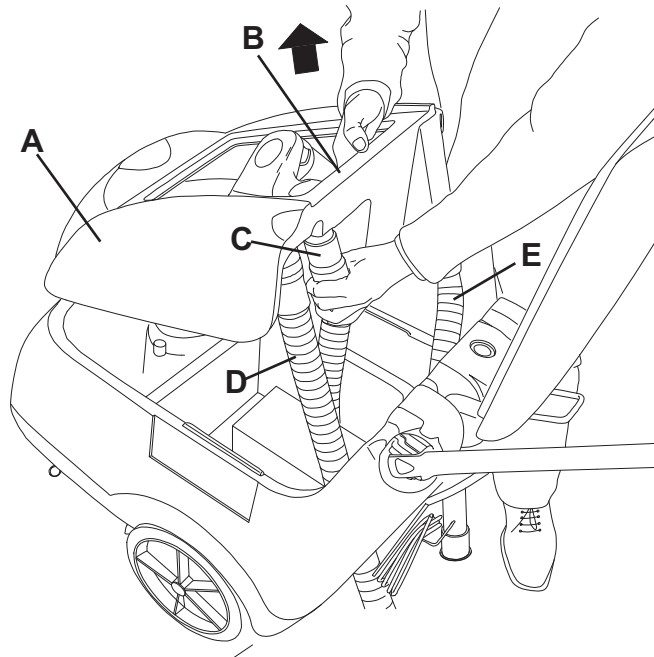

Figure 5
1. Empty the recovery tank (31) as shown in the relevant paragraph.
4. Disconnect the vacuum hose (22) from the squeegee (11).
5. Disconnect the recovery water drain hose (16) from the bracket (17).
6. Open the cover (6).
7. Grasp the recovery tank (A, Fig. 5) in the area (B) and slightly raise it.
8. Disconnect the vacuum hose (C) from the tank, then remove the tank (A) with the hoses (D) and (E).